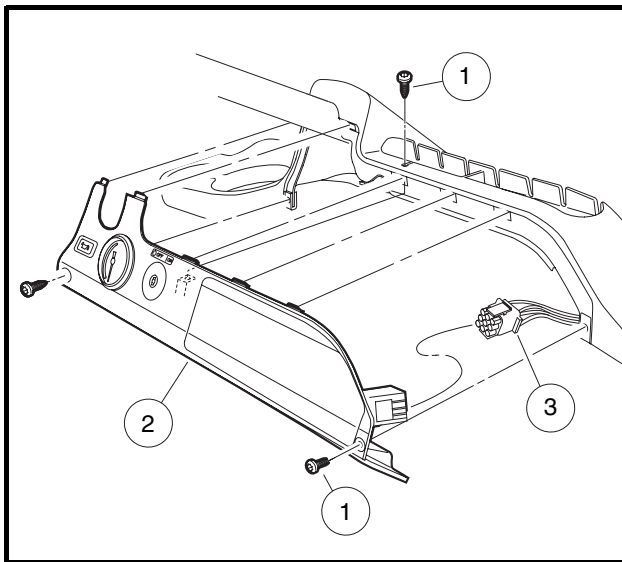

Figure 12-16 Instrument Panel Removal
- 2.1. Remove three screws (1) from the instrument panel (2) (**Figure 12-16, Page 12-13**).
- 2.1. Connect the electrical connector (3) (**Figure 12-16, Page 12-13**).